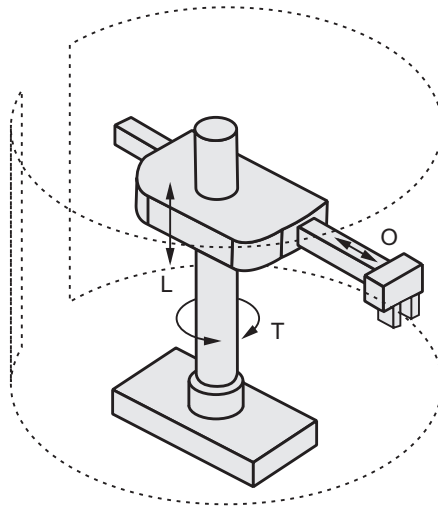

**Fig. 6.2 : Polar configuration**
- Polar configuration forms a part spherical work envelope as shown in Fig. 6.2.